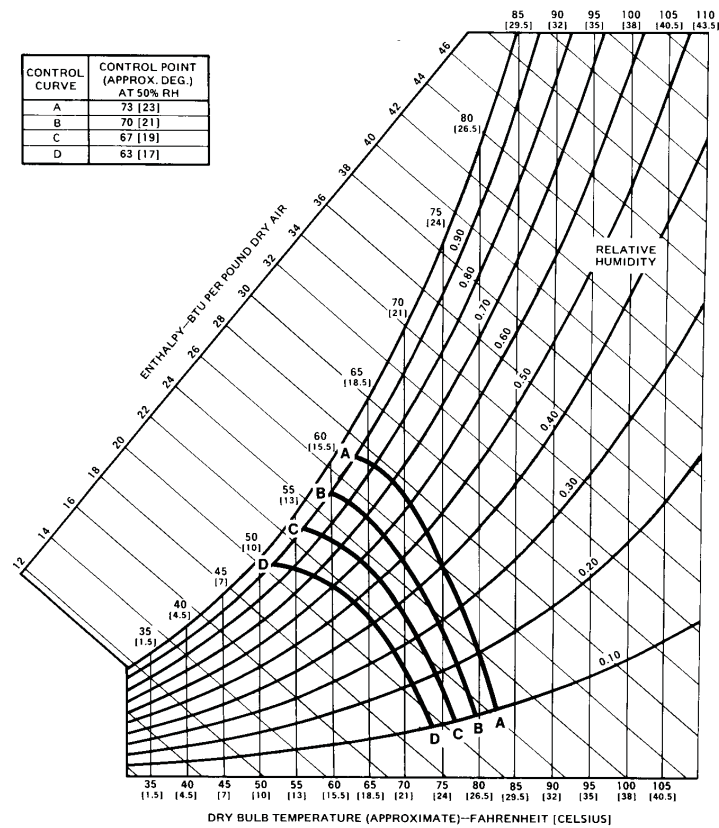

FIGURE 9 - ENTHALPY SETPOINT ADJUSTMENT
The enthalpy set point may now be set by selecting the desired setpoint shown in the Enthalpy Setpoint Adjustment Figure 9. Adjust as follows:
- For a single enthalpy operation carefully turn the set point adjusting screw (found on the damper control module) to the "A", "B", "C" or "D" setting corresponding to the lettered curve of the Enthalpy Setpoint Adjustment Figure 9.